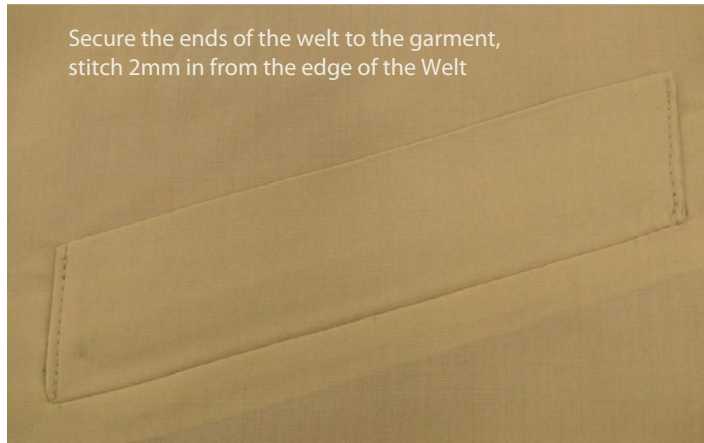

Figure 43
8. Push the pocket bags through to the inside of the garment. Turn to the right side of the garment and stitch the ends of the welt to the garment using a 2mm seam width. Back-tack at the beginning and end of the seam (see Figure 43).